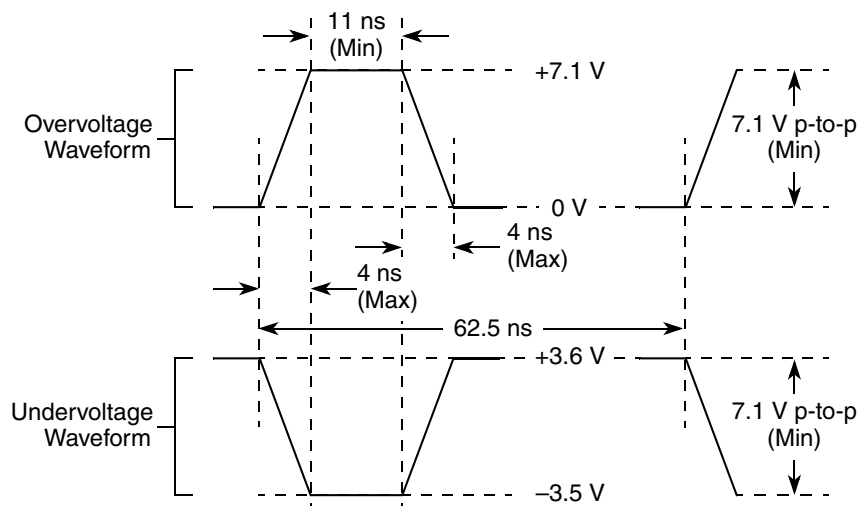

Figure 3. Maximum AC Waveforms on PCI Interface for 3.3-V Signaling
- 6 OVIN on the PCI interface can overshoot/undershoot according to the PCI Electrical Specification for 3.3-V operation, as shown in Figure 3.
Figure 3 shows the undershoot and overshoot voltage of the PCI interface of the MPC8343EA for the 3.3-V signals, respectively.